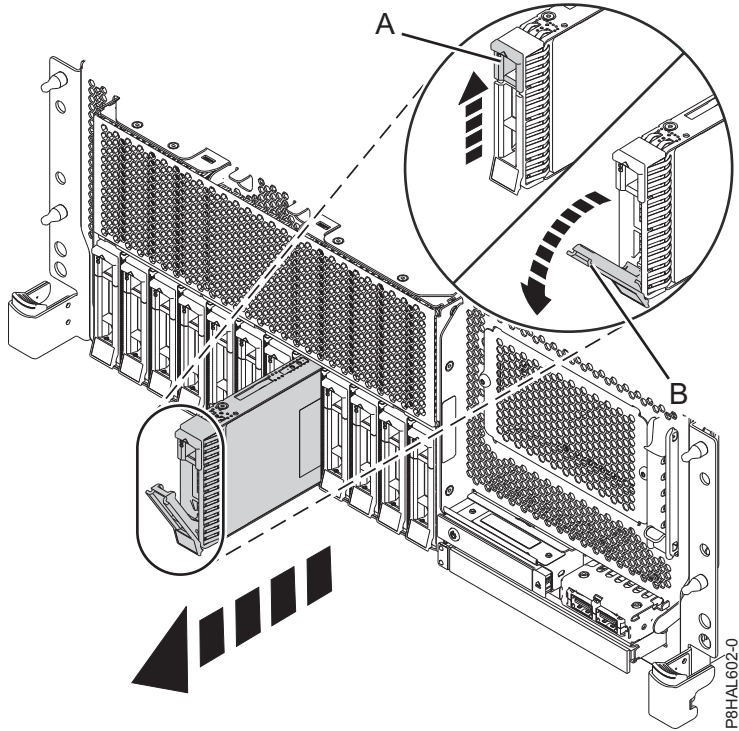

Figure 73. Removing a disk drive from a rack-mounted base function system
3. When the identify LED turns on solid, unlock the drive bay handle **(B)** by pressing the handle latch **(A)** and pulling it out toward you, as shown in Figure 73 on page 80, Figure 74 on page 80, Figure 75 on page 81, and Figure 76 on page 82. If the handle is not all the way out, the solid-state drive cannot slide out of the system.